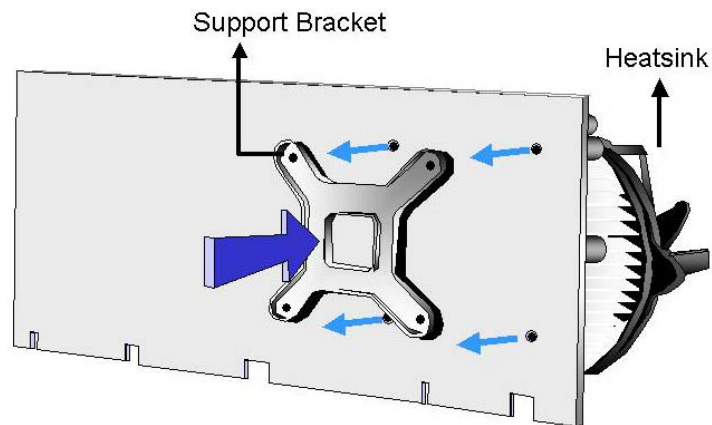

Figure 5-6: Securing the Heat sink to the PCB Board
- Step 4:** Secure the cooling kit. From the solder side of the PCB, align the support bracket to the screw threads on heat sink that were inserted through the PCB holes. (See **Figure 5-6**)